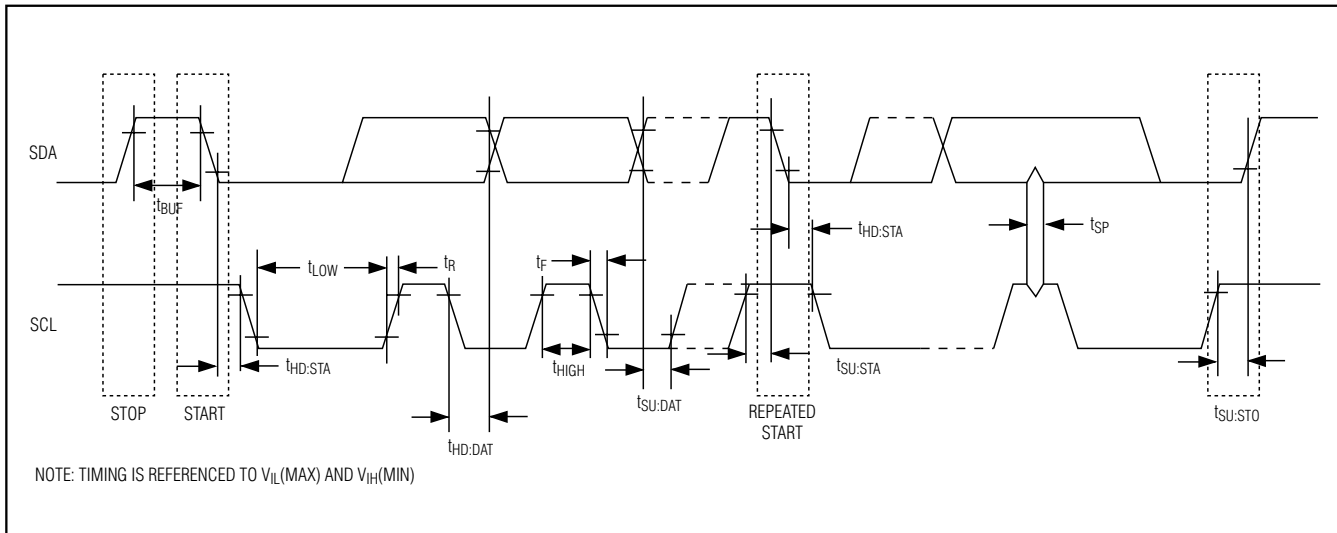

Figure 1. I²C Timing Diagram
**Bit Write:** Transitions of SDA must occur during the low state of SCL. The data on SDA must remain valid and unchanged during the entire high pulse of SCL plus the setup and hold time requirements (see Figure 1). Data is shifted into the device during the rising edge of the SCL.
**Bit Read:** At the end a write operation, the master must release the SDA bus line for the proper amount of setup time (see Figure 1) before the next rising edge of SCL during a bit read. The device shifts out each bit of data on SDA at the falling edge of the previous SCL pulse and the data bit is valid at the rising edge of the current
**Acknowledgement (ACK and NACK):** An Acknowledgement (ACK) or Not Acknowledge (NACK) is always the 9th bit transmitted during a byte transfer. The device receiving data (the master during a read or the slave during a write operation) performs an ACK by transmitting a zero during the 9th bit. A device performs a NACK by transmitting a one during the 9th bit. Timing (Figure 1) for the ACK and NACK is identical to all other bit writes. An ACK is the acknowledgment that the device is properly receiving data. A NACK is used to terminate a read sequence or as an indication that the device is not receiving data.